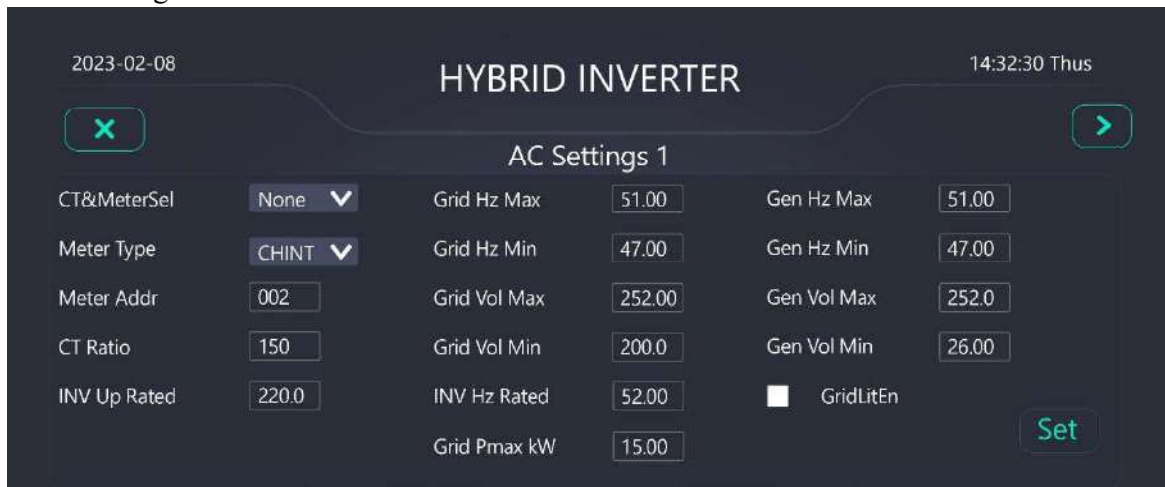

Figure 3.15 AC Setting 1
Bat Mode: Select one of "Lithium", "Use Bat V" or "Use Bat %" for all the setting. This will affect ②,③ in that Figure 3.12 and ②,③ in that Figure 3.15 settings below.
b. Part ② is the maintenance setup for lithium batteries or battery SOC control
- **TempCorrEn,** When this option is checked, the temperature compensation of the float or average charge in ④ will take effect.
Click the CT Ratio data box in the grid setting interface in Figure 3.15 to set the CT transformation ratio. When the model of transformer is 100:50mA, the interface value shall be filled with 100. If the transformer is 150:50mA, the value should be 150.